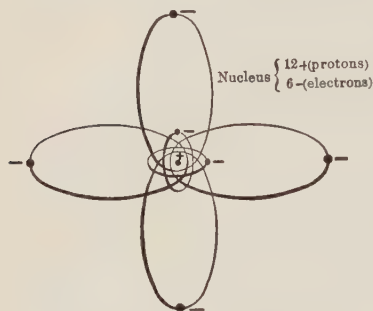

FIGURE 420. — CARBON ATOM.
**280. Nature of Electrons.** — Every atom consists of a nucleus containing an excess of positive electricity, of whose form and nature we know little, and from one to ninety-two electrons moving around this nucleus (Figure 420). By various means electrons may be separated from the atoms, and to these free electrons all electrical actions and effects